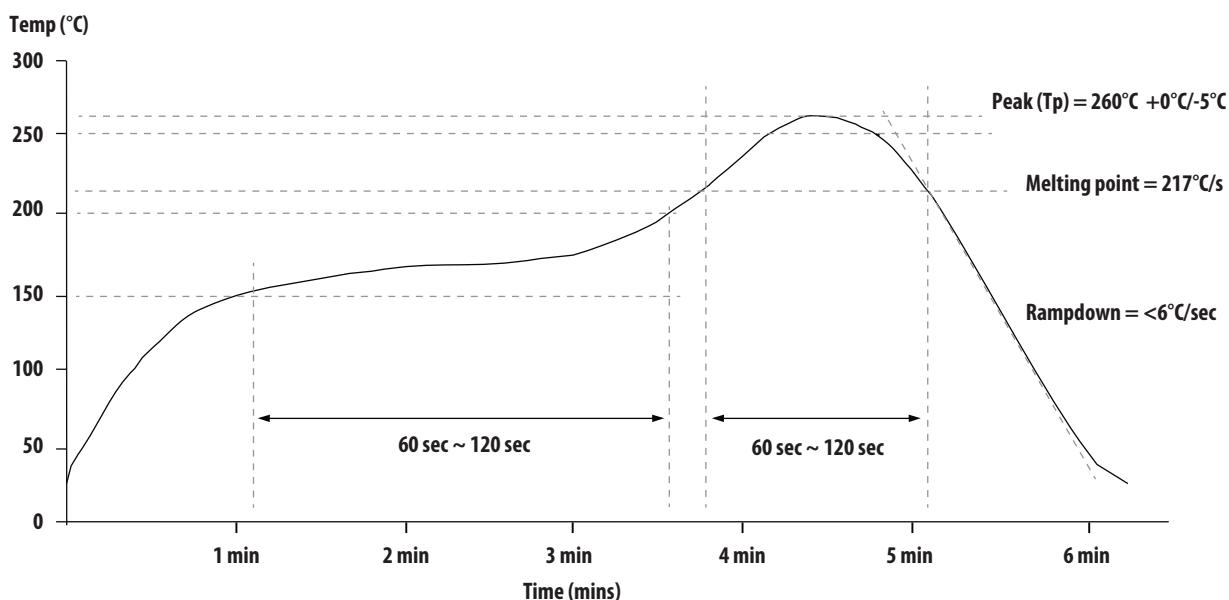

Figure 30. Recommended reflow profile
The recommended lead free solder for SMT reflow is Sn-Ag-Cu (95.5% Tin / 3.8% Silver/ 0.7% Copper). This lead free solder paste has a melting point of 217°C (423°F), the ternary eutectic of Sn-Ag-Cu system, giving it the advantage of being the lowest melting lead free alternative. This temperature is still low enough to avoid damaging the internal circuitry during solder reflow operations provided the time of exposure at peak reflow temperature versus time is shown in Figure 30.
The solder paste used in this evaluation is RX 303-92 SK HO(S) by Nihon Handa. Profile in Figure 30 is recommended in automated reflow process to ensure reliable finished joints. However, profile will vary among different solder paste from different manufacturers. Other factors that may affect the profile includes the density and type of components on the board, type of solder and type of board or substrate material being used. The profile shows the actual temperature that should occur on the surface of a test board at or near a central solder joint. During this type of reflow soldering, the circuit board and solder joints tend to heat first. The components on the board are then heated by conduction. The circuit because it has a large surface area, absorbs thermal energy more efficiently, and then distributes this heat to the components.